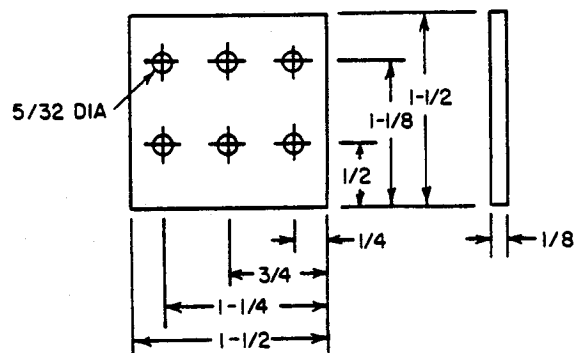

Figure 3-8
Cut the teflon into four pieces 1-1/2" long as shown in Figure 3-8. Clamp the four teflon pieces together between a piece of wood and the end of the drill guide. Drill the six 5/32" diameter holes through all four pieces.
- (4) - Teflon Insulators (Figure 3-8)
- (16) - 6-32 x 1/2" round head machine screws